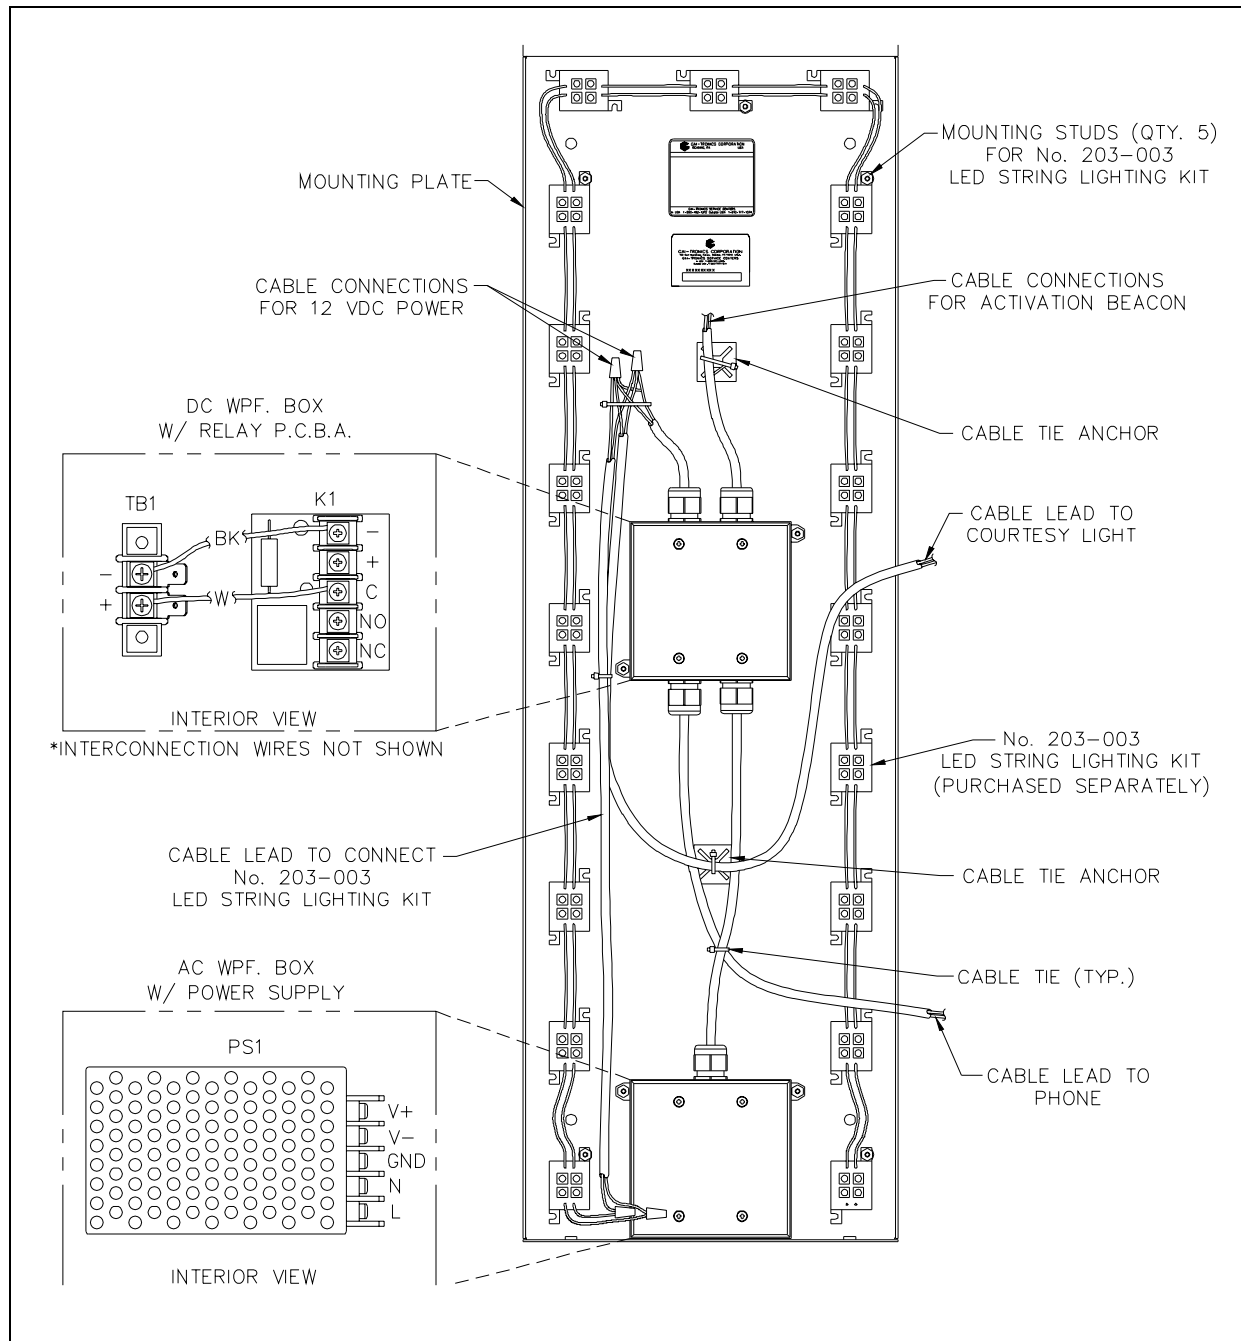

Figure 3. Basic Wire Routing
Wire routing is exceptionally important if interior lighting is installed. Wires must be adequately bundled and anchored so as not to cast shadows on the main stanchion body. Refer to Figure 3 for proper wire routing and anchoring.
Begin installation of the Model 203-003 Interior Lighting Kit by placing the rear mounting plate on a horizontal surface. Arrange the string of LEDs, without permanently attaching them, as shown in Figure 3. Hook the mounting feet on the five mounting studs to insure proper layout and spacing of the string. Untwist any modules as necessary. Permanently attach the LED modules to the panel as follows:
1. Place the five provided metallic spacer washers (provided with stanchion) on each mounting stud. Beginning in the bottom left of the rear mounting plate, peel the transfer film off of the first LED module and locate it using the protruding stud. Refer to Figure 3.
5. Finally, wire the module string into 12 V dc power. Refer to Figure 3 for the suggested wire layout and connection points. If a separate 12 V dc power source is used, be sure to attach the white wire to positive and black to negative.